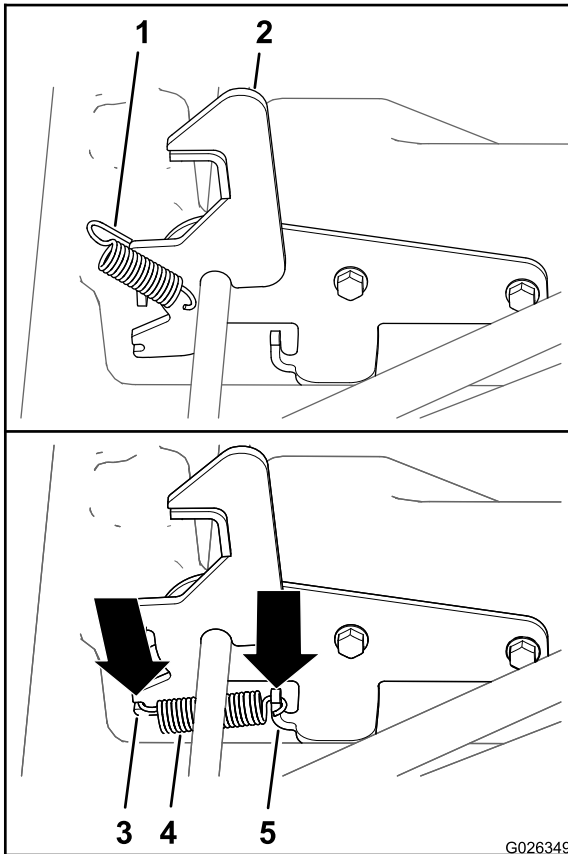

Figure 10
5. Align the long tang of a spring to the spring saddle of the latch assembly (Figure 10).
6. Connect the short tang of the spring to the spring post of the latch (Figure 10).
7. Repeat steps 5 and 6 for the other latch and spring (Figure 10).